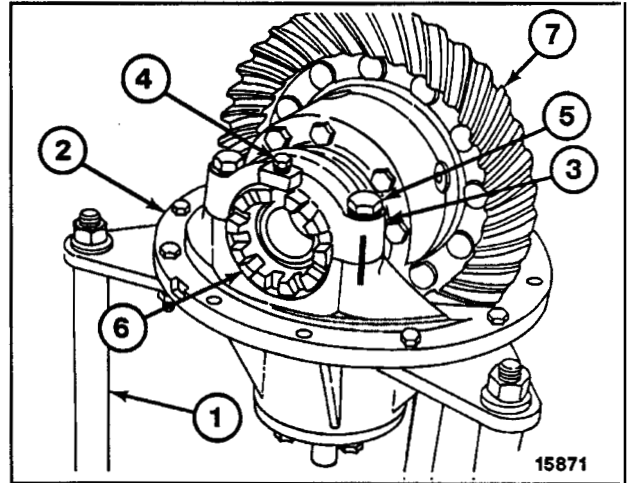

Figure 85
- Attach three differential carrier support plates and legs (1, Figure 85) to carrier housing (2).